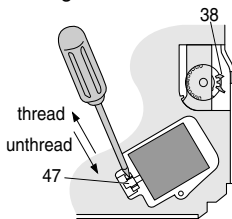

Fig. 4
- When the drive mechanism can't be operated via the chassis board: Turn the loading motor driver (Pos. 47) with a screwdriver and position the cassette compartment gear (Pos. 38) as shown in Fig. 4.